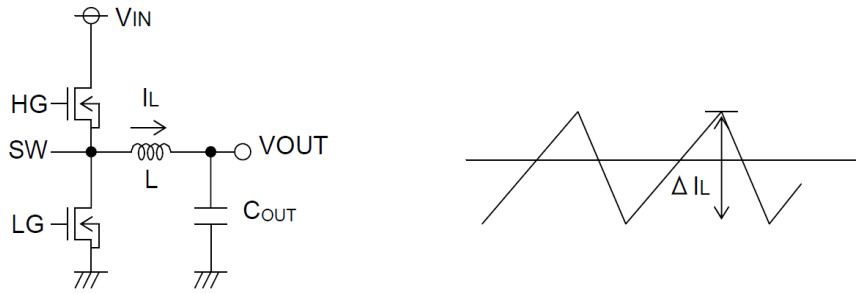

Fig 14: Inductor Ripple Current
Also, give consideration to the conditions in formula (5) below for output capacitance, bearing in mind that output rise time must be established within the fixed soft start time. As output capacitance, bypass capacitor will be also connected to output load side (C_{EXT}, Fig.14). Please set the over current detection value with regards to these capacitance.